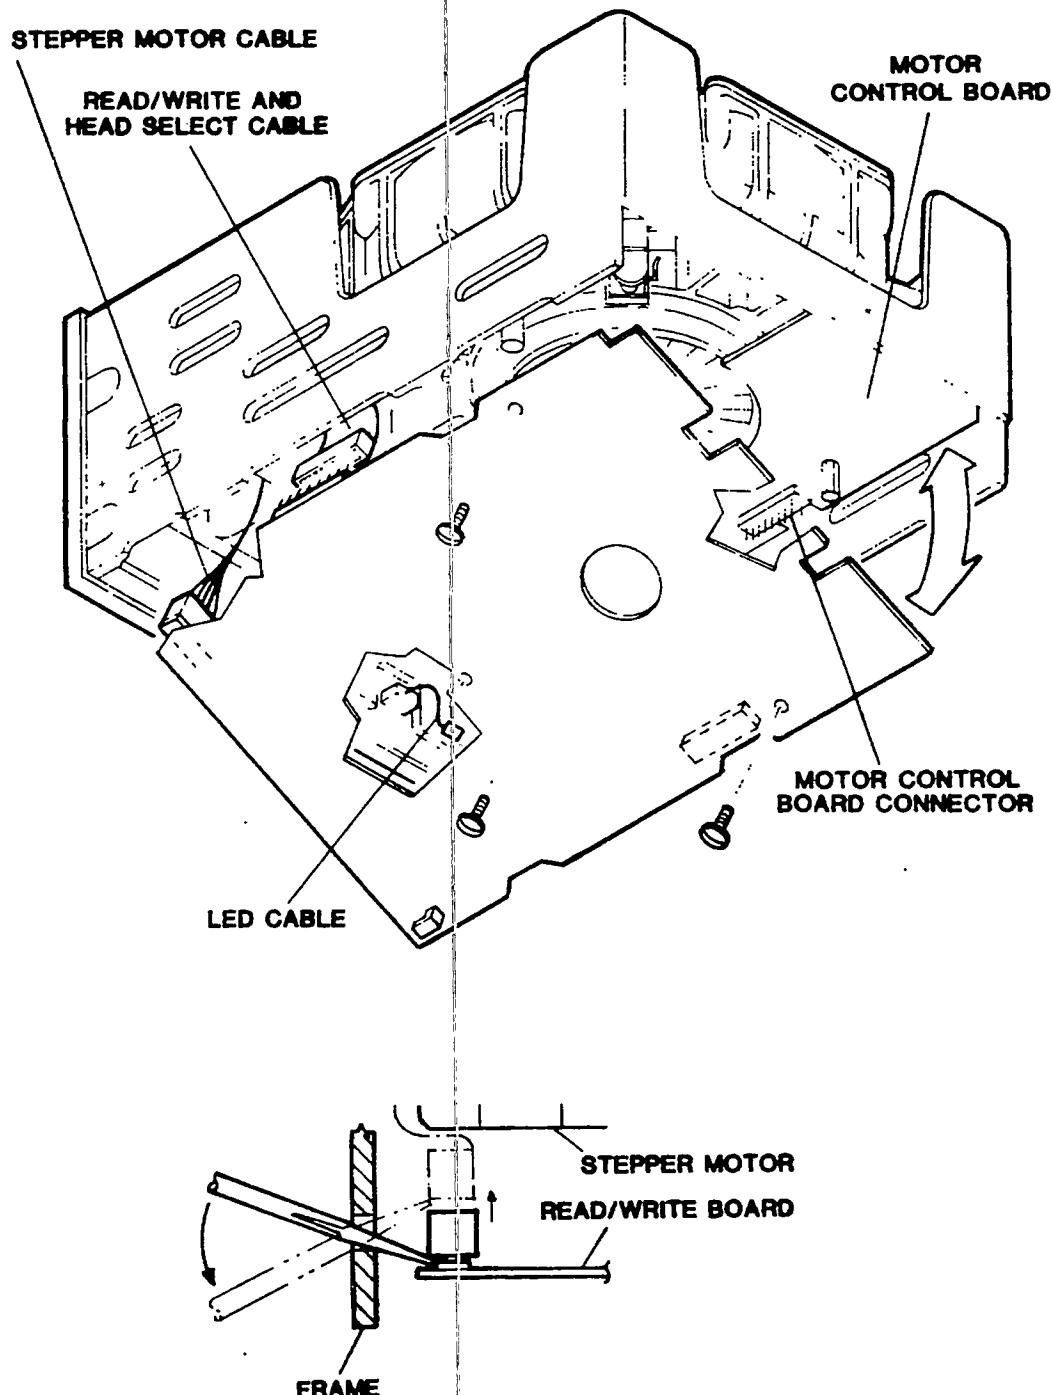

Figure 11. Read/Write PCA Removal
4. Disconnect the read-write/head-select mylar flatcable from the Read/Write PCA to the drive mechanism (see figure 11.)
6. Gently lift the Read/Write PCA up, disconnecting the Motor Control PCA connector J-24 (refer to figure 11).